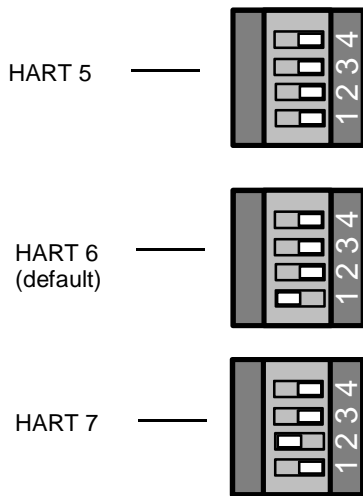

Figure 41: HART DIP Switch
- 7 With a clean, non-conductive instrument, change the position of DIP switch according to Figure 41: HART DIP Switch. After changing the DIP switch, the positioner will immediately recognize the new HART communication protocol.